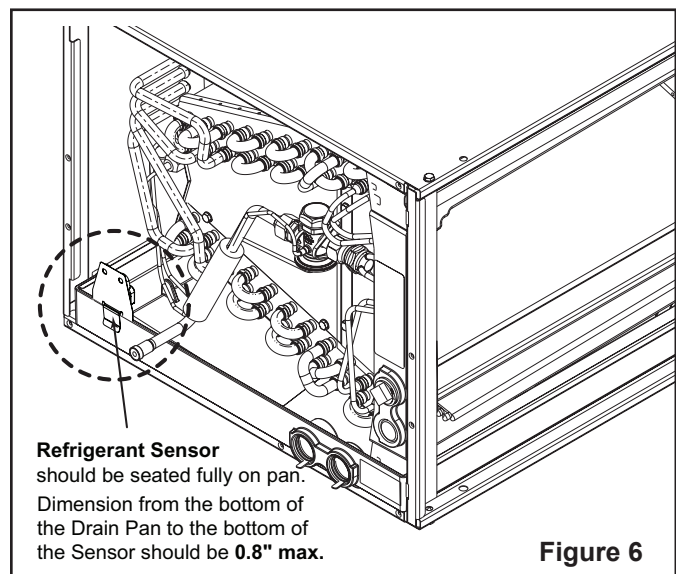

Figure 6
- Pull refrigerant sensor and clip up and off of the primary drain pan. Relocate sensor to secondary drain pan by pressing sensor clip down on drainpan edge. The sensor orientation should be pointing in toward the coil to function properly. See Figure 6. Ensure all sensor harness wires are well clear of copper braze connections to avoid damage. In some models, the plastic clip attaching the sensor harness near the TXV may need to be pulled loose to allow the harness to fully extend for correct sensor placement.
- c. Pull refrigerant sensor and clip up and off of the primary drain pan. Relocate sensor to secondary drain pan by pressing sensor clip down on drainpan edge. The sensor orientation should be pointing in toward the coil to function properly. See Figure 6. Ensure all sensor harness wires are well clear of copper braze connections to avoid damage. In some models, the plastic clip attaching the sensor harness near the TXV may need to be pulled loose to allow the harness to fully extend for correct sensor placement.